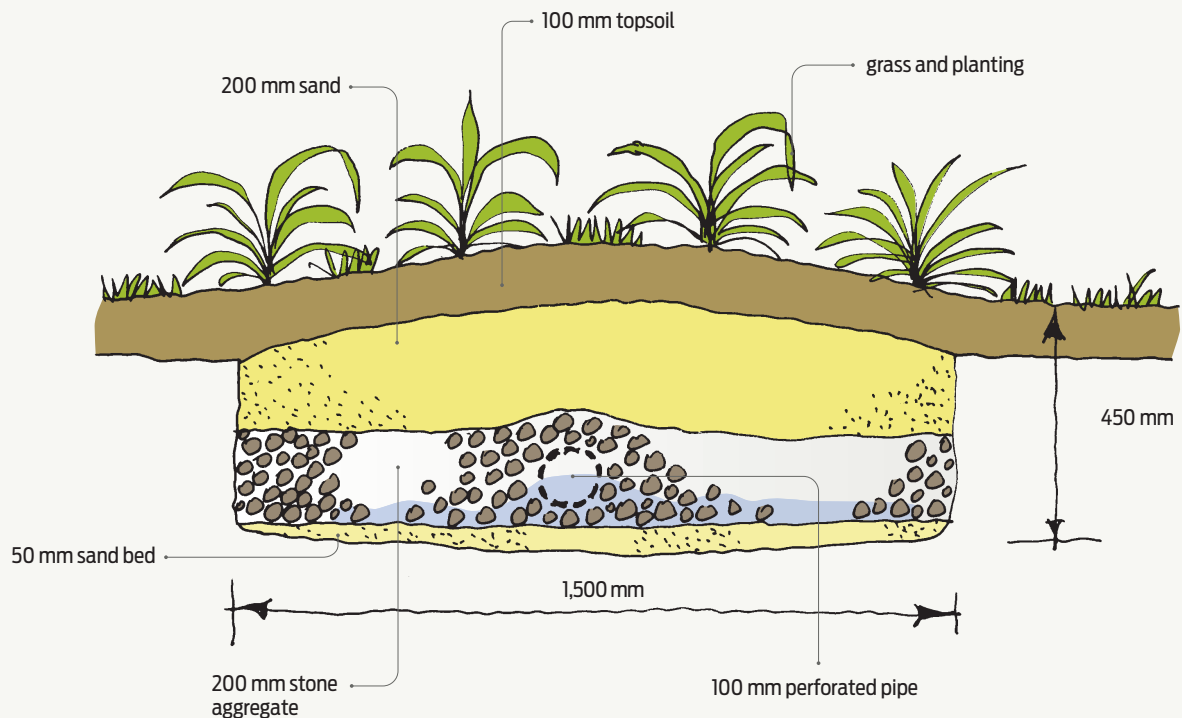

Figure 3 Evapotranspiration trench.
- Evapotranspiration systems – perforated pipes are laid in wide, gravel-filled trenches (see Figure 3). The overlying soil is planted with specific shallow-rooted plants that absorb effluent through their roots, releasing water into the atmosphere through their leaves in a natural process of transpiration. Effluent ➤